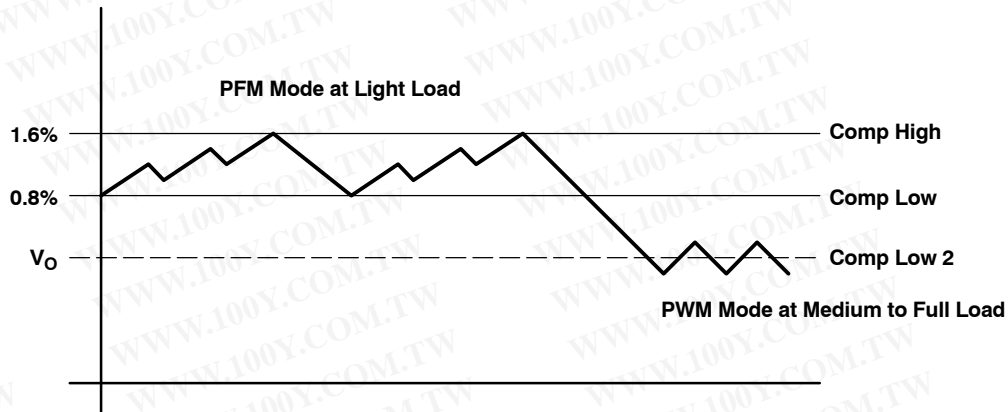

Figure 14. Power Save Mode Thresholds and Dynamic Voltage Positioning
During power save mode the output voltage is monitored with the comparator by the threshold's comp low and comp high. As the output voltage falls below the comp low threshold set to typically 0.8% above the nominal output voltage, the P-channel switch turns on. The P-channel switch remains on until the transition current (1) is reached. Then the N-channel switch turns on completing the first cycle. The converter continues to switch with its normal duty cycle determined by the input and output voltage but with half the nominal switching frequency of 625-kHz typ. Thus the output voltage rises and as soon as the output voltage reaches the comp high threshold of 1.6%, the converter stops switching. Depending on the load current, the converter switches for a longer or shorter period of time in order to deliver the energy to the output. If the load current increases and the output voltage can not be maintained with the transition current, equation (1), the converter enters PWM again. See Figure 11 and Figure 12 under the typical graphs section and Figure 14 for power save mode operation. Among other techniques this advanced power save mode method allows high efficiency over the entire load current range and a small output ripple of typically 1% of the nominal output voltage.
Setting the power save mode thresholds to typically 0.8% and 1.6% above the nominal output voltage at light load current results in a dynamic voltage positioning achieving lower absolute voltage drops during heavy load transient changes. This allows the converter to operate with small output capacitors like 22  $\mu$ F and still having a low absolute voltage drop during heavy load transient. Refer to Figure 14 as well for detailed operation of the power save mode.
As described in the power save mode operation sections before and as detailed in Figure 14 the output voltage is typically 0.8% (i.e., 1% on average) above the nominal output voltage at light load currents, as the device is in power save mode. This gives additional headroom for the voltage drop during a load transient from light load to full load. In the other direction during a load transient from full load to light load the voltage overshoot is also minimized by turning on the N-Channel rectifier switch to pull the output voltage actively down.